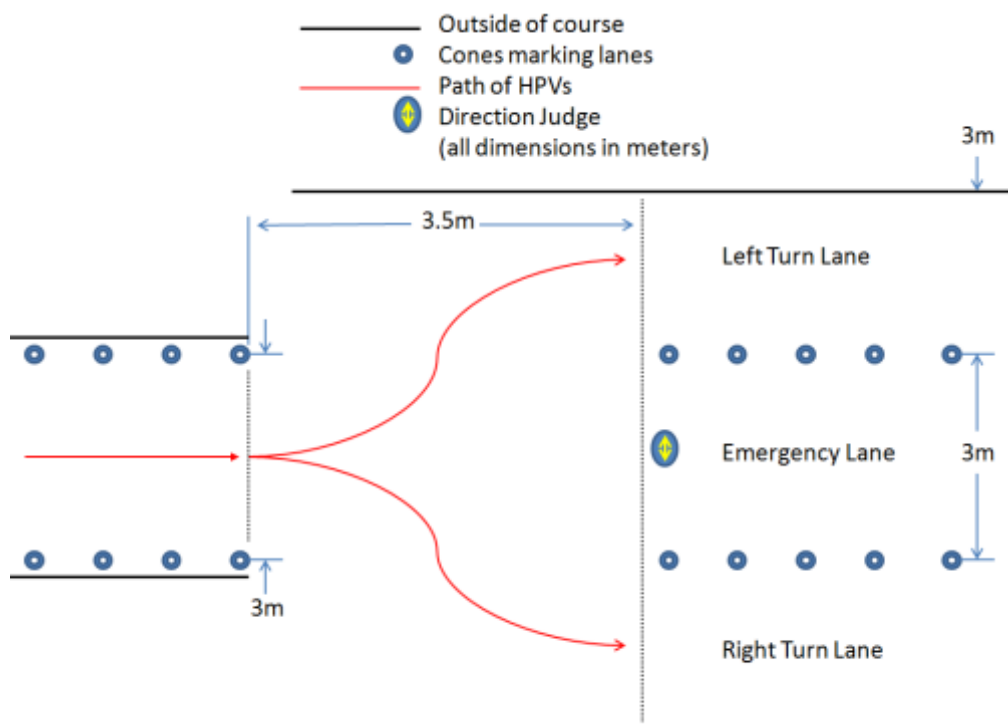

Figure 3: Quick turn obstacle (Note: actual layout subject to limitations of venue)
- 6) Quick turn. As teams approach the quick turn they will be funneled into a single lane 3m (9ft 10") wide. Then each rider will be signaled to turn into a right lane or left lane by the quick turn judge when they reach the opening of the lane change delta. Teams will have to switch to the signaled lane within the 3.5m (11ft 6") length of the delta. If teams cannot make the lane change a center 3m (9ft 10") wide lane will be provided to allow for vehicles to continue on straight, but taking this lane or knocking down any cones constitutes a failure of the obstacle. Figure 3 shows the quick turn obstacle.